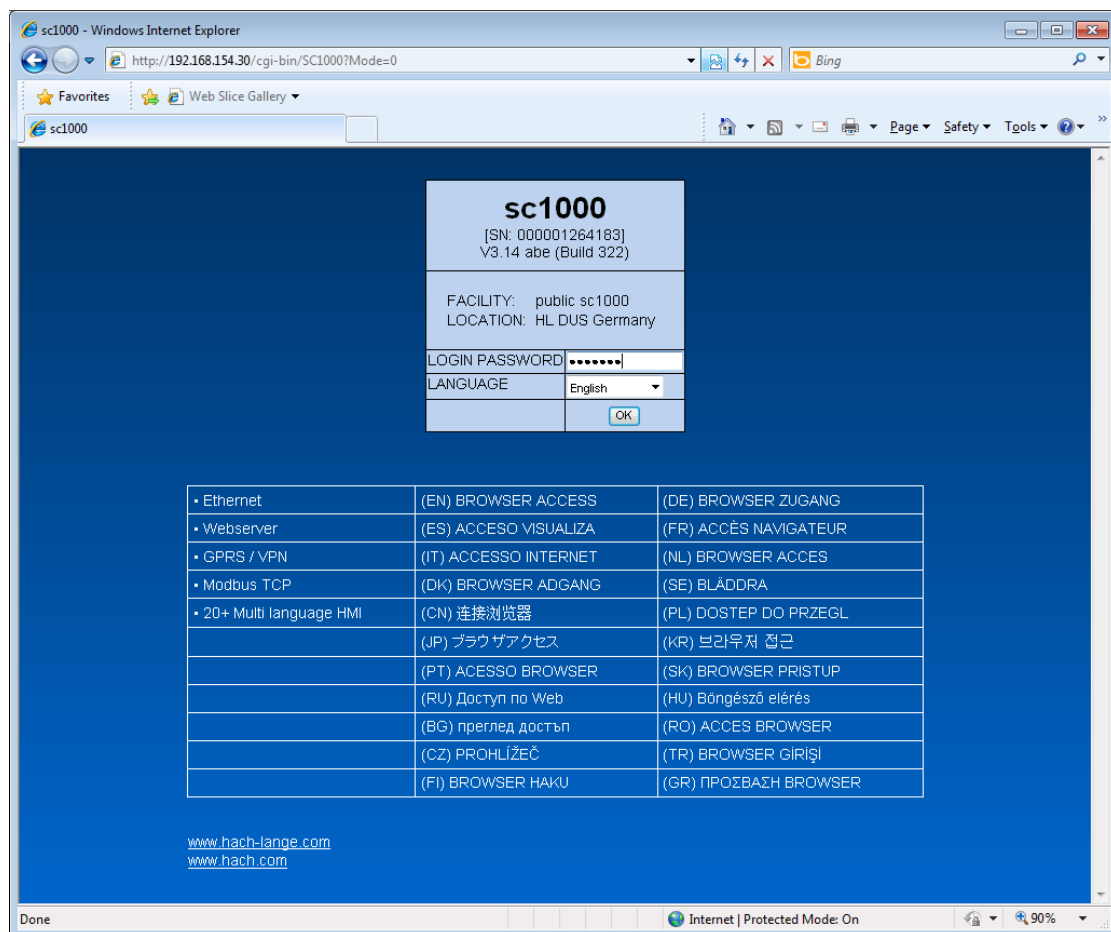

figure3: sc1000 loginscreen
- When the screen (see figure3) appears, the connection is successfully set up:
- If the screen shown on figure3 does not appear, check the settings in “Step 2:Network settings for Windows PC/Laptop” or get help from your IT department.